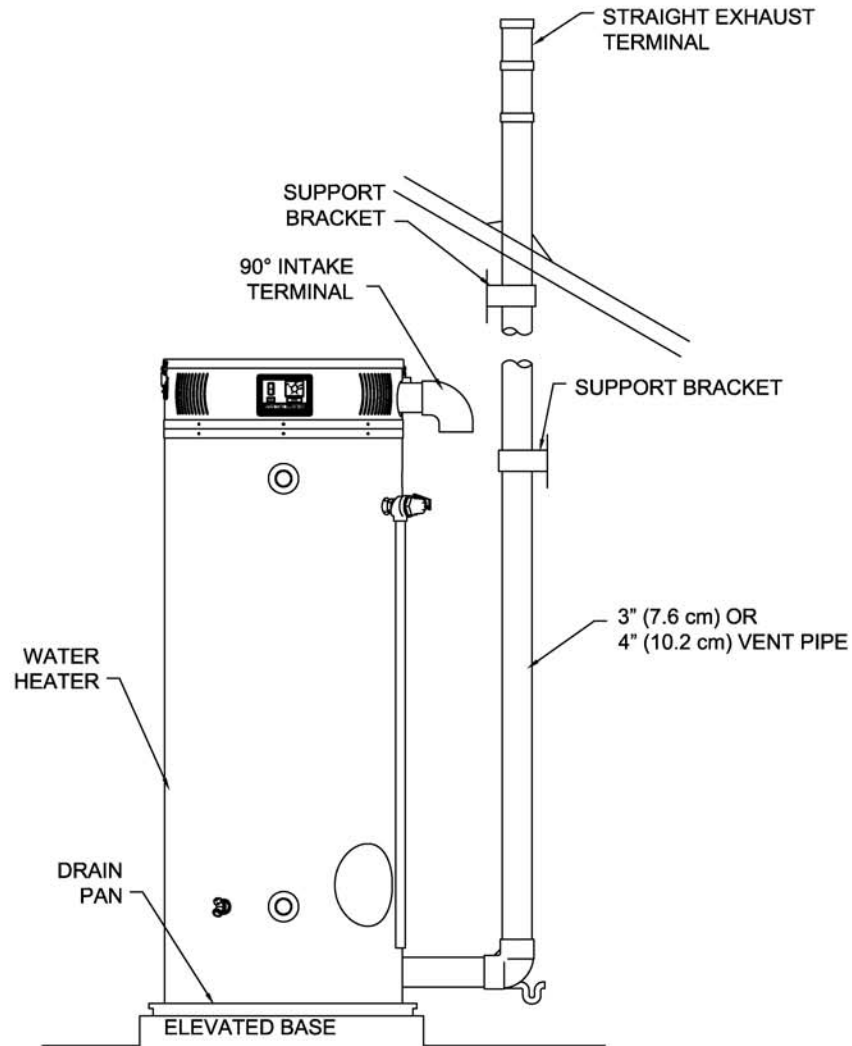

Figure 17. Typical Vertical Power Vent System Installation
2. Install the exhaust vent and air intake plastic pipes as shown in Figure 17. Make sure that the installation meets the local codes and/or The National Fuel Gas Code ANSI Z223.1 (Latest Edition) or CGA/CAN B149 Installation Code.